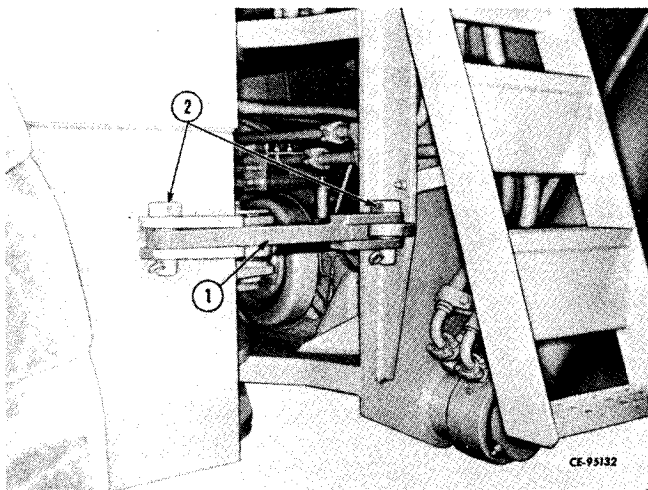

Figure 2-36
Remove safety bar (1, Fig. 2-36) and pins (2). Install safety bar in storage position.